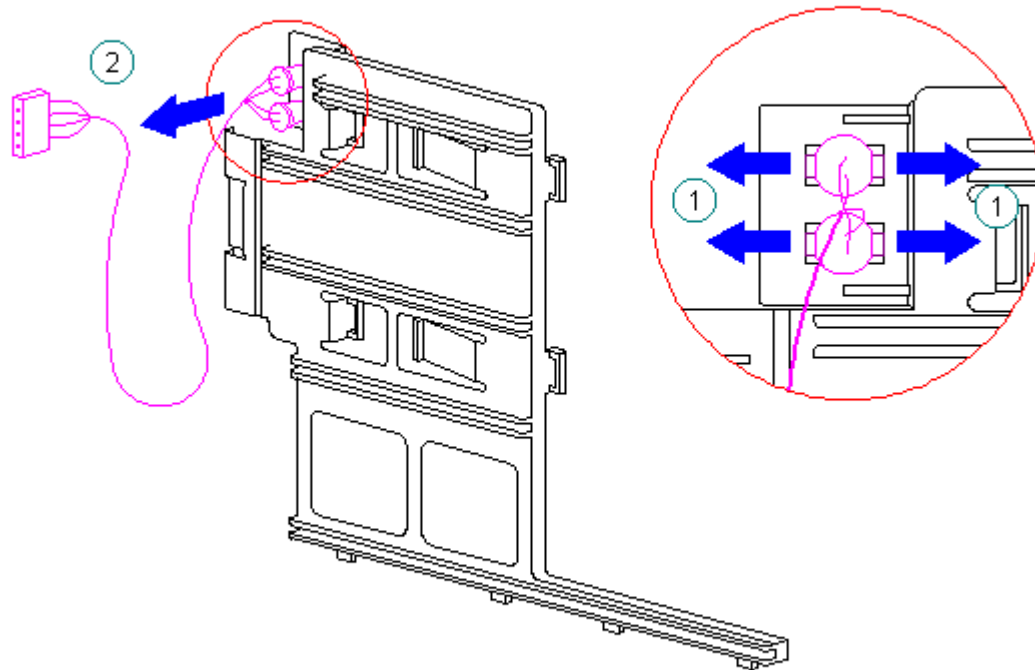

Figure 5-45. Removing the LEDs from the Card Guide
7. Remove the LEDs from the card guide by spreading the tabs that secure the LEDs in place sufficiently for the LED to clear the tab hooks and pull the LEDs out of the card guide (Figure 5-45).